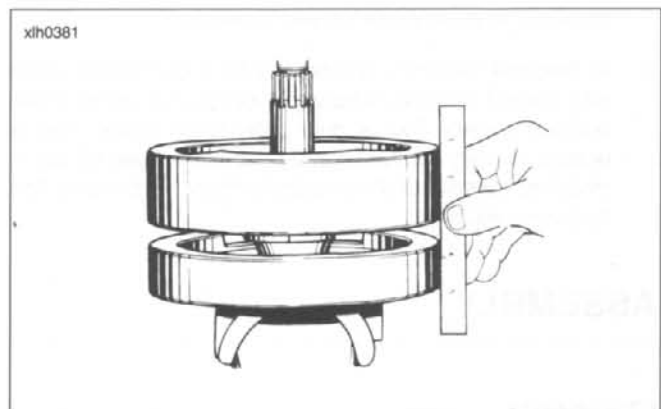

Figure 3-113. Squaring Flywheel Faces
8. See Figure 3-113. Hold steel straightedge along outer face of wheel rims at 90° from crank pin as shown. Tap outer rim of top wheel until wheels are concentric. Tighten nut, recheck with straightedge at frequent intervals.